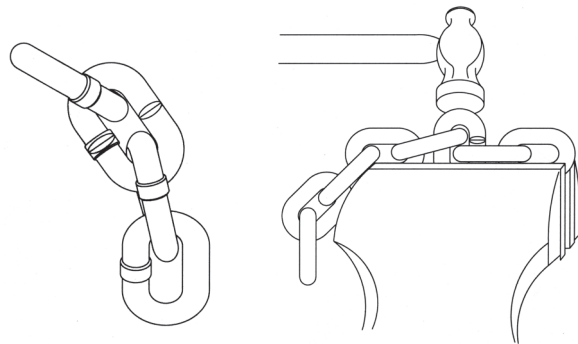

Figure 11. Cutting Chain by Nicking
1. Use a grinder and nick the link on both sides (Figure 11). Then secure the link in a vise and break off with a hammer.